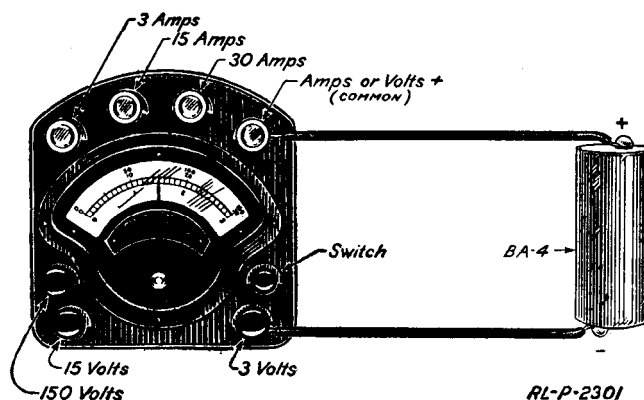
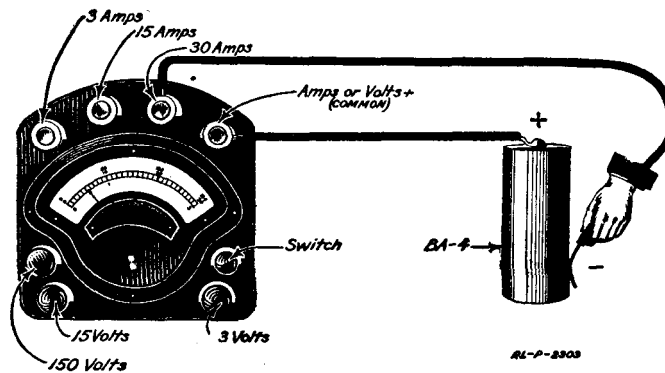
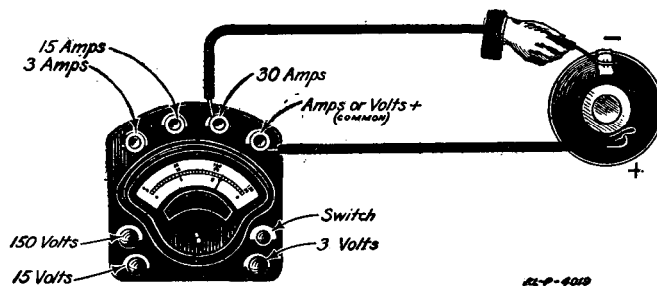

Fig. 2.—Method of connecting type BA-4 cell to a voltmeter.
Fig. 5.—Method of making short-circuit test of type BA-4 cell.
Fig. 6.—Method of making short-circuit test of type BA-10 cell.
1. Connect the wire leading from the carbon rod or positive pole of the BA-4 cell to the terminal marked "Amps or Volts +" on the voltammeter. Connect the wire leading from the bottom of the zinc case or negative terminal of the cell to the terminal marked "3 Volts" on the voltmeter. (See Fig. 2.) Press the small button switch on the voltmeter and watch the indicating needle.
*Ammeters.*—When using the meter shown in Fig. 2, as an ammeter, the connections are made with the terminals at the top of the meter. (See Fig. 5 and Fig. 6.) The three terminals marked “3 Amps,” “15 Amps,” and “30 Amps” are the negative terminals. The positive or “Amps +” terminal is the same terminal used for the “Volts +” connection. When measuring the amperage of a dry cell or battery one terminal of the meter (usually the positive terminal) is connected directly to the positive terminal of the cell or
9. Measure the amperage of the BA-4 cell, making the connections as shown in Fig. 5. Take the readings quickly so as not to run down the cell. Record the reading in the table prepared.
10. Measure the amperage of the BA-10 cell using the terminal marked “30 Amps” and “Amps +” as shown in Fig. 6. Record the reading in the table prepared.